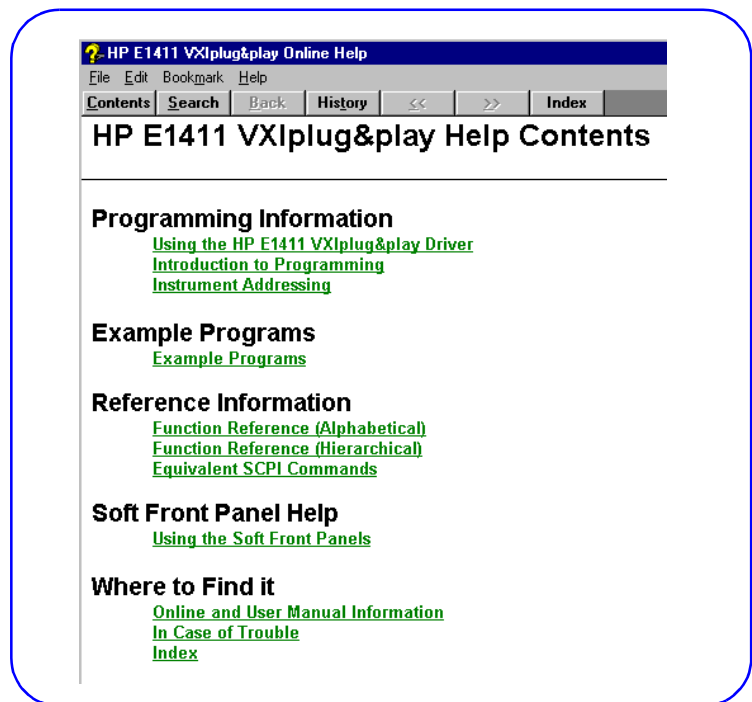

Figure 38. Typical VXIplug&play Help File Main Menu
- 2 For the first VXI instrument to be programmed, open the applicable instrument *VXIplug&play* Help File (*Start/Programs/Vxipnp/instrument help icon*). Figure 38 shows a typical *VXIplug&play* Help File main menu for the HP E1411 DVM that is displayed when you click *Start/Programs/Vxipnp/HP E1411 Help (32-bit)*.